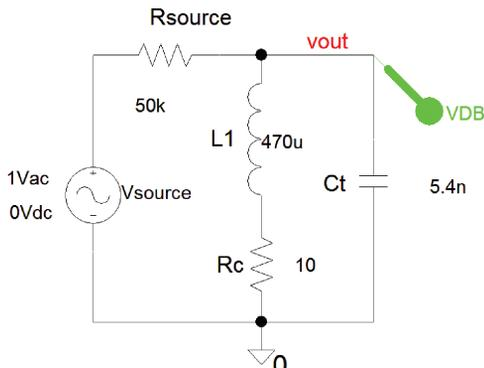

FIGURE 6.17: Thévenin equivalent circuit for a current source
For the circuit in Fig. 6.17, calculate the unloaded and loaded Q -factors, resonant frequency, the -3 dB bandwidth (BW) and the dynamic impedance. Compare these calculations to the simulate resultants from the voltage amplitude response. Plot the phase and impedance responses across the circuit (do not include the source resistance).